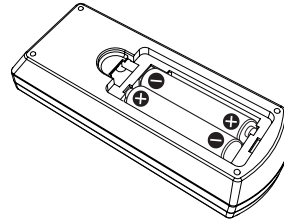

Fig. 2
- 2) **Insert batteries and close the cover (insert the "●" side first). (Fig. 2)**